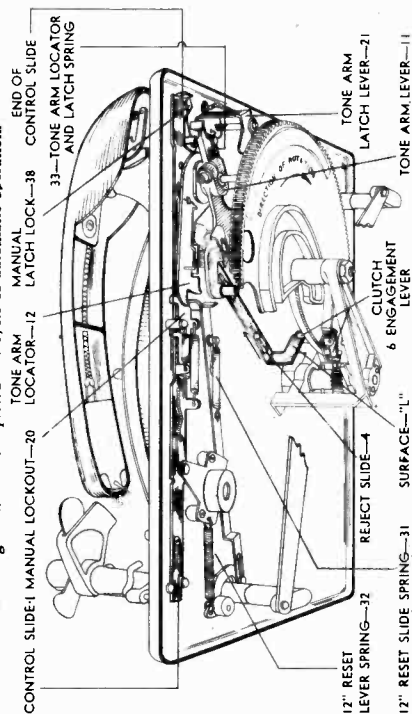

FIGURE 13. BOTTOM VIEW
A. TONE ARM LATCH LEVER (21)
- a. A positive lock for the tone arm when the latter is swung to the outside of the panel in all positions of the control slide other than "MANUAL". This is brought about by the engagement between the tone arm lever (11) and the tone arm latch lever (21).
- b. A partial lock, or detent, for the tone arm while the control slide is in "MANUAL". This results when the control slide is moved to the manual latch lock (38), which in turn moves the tone arm latch lever (21).
- a. When the tone arm is playing a record in "AUTOMATIC" position and is moved to the rest position, the tone arm latch lever (21) must positively lock the tone arm lever (11).
- b. When the control slide is moved to "MANUAL" the turned down portion of the control slide must contact the manual latch lock (38) which pulls the tone arm latch lever (21) and changes its contact with the tone arm lever (11) from a positive lock to a partial lock, giving a light, smooth detent action when the tone arm is in the rest position. (See Fig. 13)
1. Study the text concerning Fig. 13. Examine the following two springs for being loose, of improper tension or missing: 12" Reset Slide Spring (31), 12" Reset Lever Spring (32).
2. Incorrect Locator Spring Tension (33)